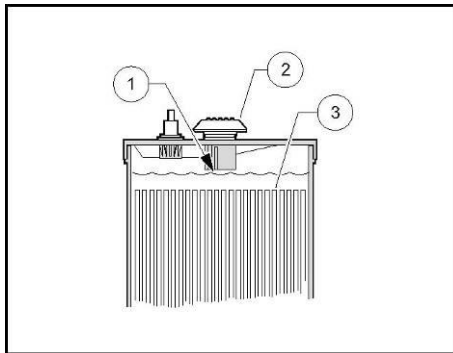

Figure 14 Battery Electrolyte Level
2. The electrolyte level in the batteries should be checked weekly (**Figure 14**). Add water only after charging unless the electrolyte level is below the top of the plates. In this case, add just enough water to cover the plates, charge and then check the level again. Never charge batteries if plates are exposed above electrolyte level. For best battery life, add only distilled water. **See following CAUTION and NOTE.**
1. Level Indicator 2. Cap 3. Plates Electrolyte level at least 1/2 inch (13 MM) above plates or to level indicator Fig 14.